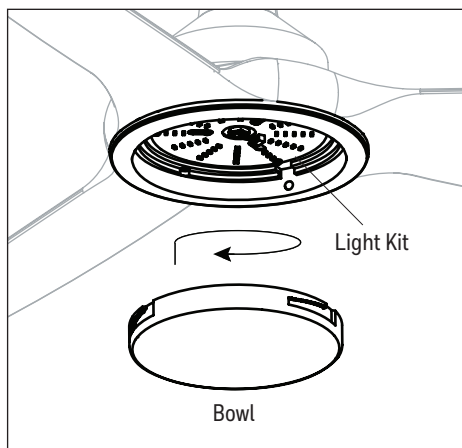

Figure 5.4
4. To ensure the bowl did not loosen during shipment, push up and twist the bowl firmly in a clockwise direction until it is secure (Figure 5.4).